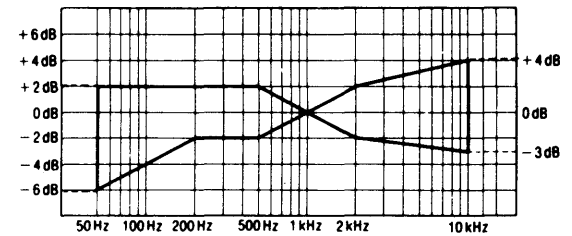

Fig. 8
4. Play back the test signals just recorded and verify that the levels at the test frequencies fall in the ranges specified in Fig. 8 with respect to the reference signal level.